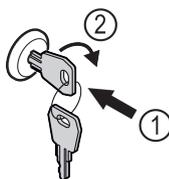

Fig. 183
- ▶ Insert the key. Fig. 183 (1)
- ▶ Turn the key clockwise by 90°. Fig. 183 (2)